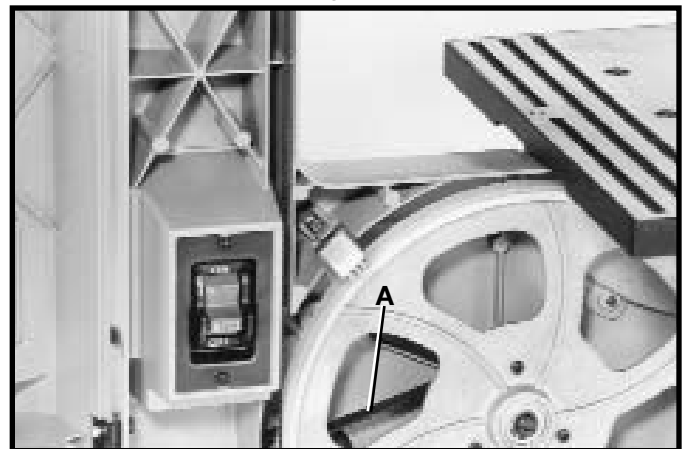
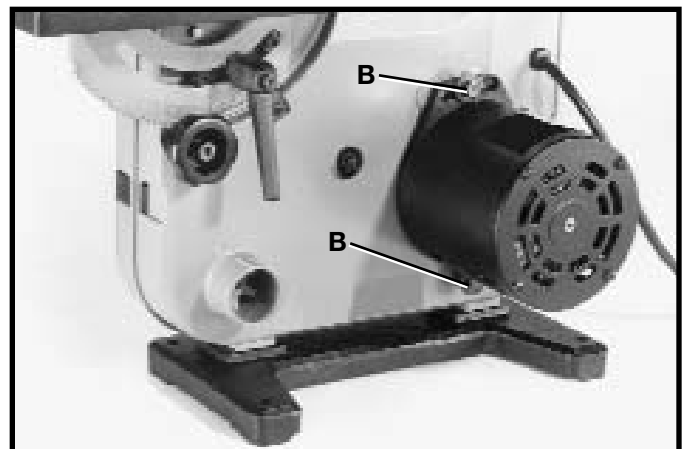

Fig. 29
Fig. 30
The belt (A) Fig. 29, drives the blade wheel pulley from the motor pulley. The belt (A) is properly tensioned when there is approximately 1/4" deflection in the center span of the belt using light finger pressure. If belt tension needs to be adjusted, loosen two screws (B) Fig. 30, and rotate motor accordingly. Tighten screws (B) when adjustment is completed.